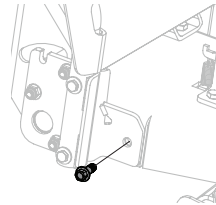

Figure 8
- Secure with self-tapping screw (710-04683C) from hardware pack 689-02139. See Figure 8.